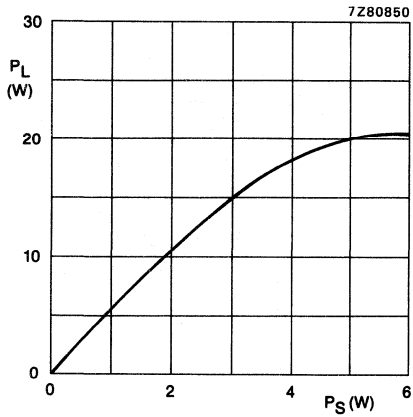

Fig.7 Load power as a function of source power.
**Conditions for Figs 7 and 8:**